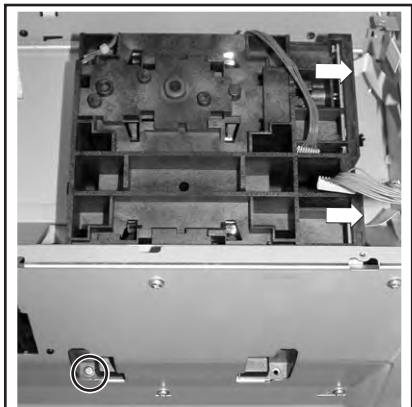

Figure 12. Removing one screw from the bottom left of the laser/scanner.
10. Unplug two flat wiring cables, indicated by arrows in Figure 12, from the right side of the laser/scanner assembly.
11. Tip the printer up high enough to remove the bottom left laser/scanner screw, circled in Figure 12.